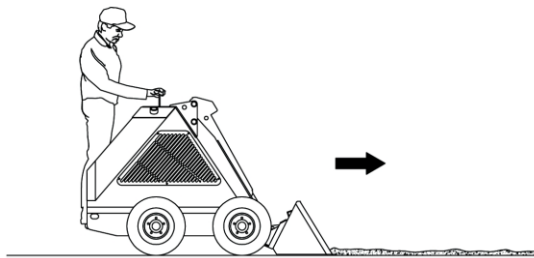

Fig. 17
3. Another method of leveling is to travel forward with bucket down and level, full of material and pushing excess into low areas. Depth is controlled by tilting the bucket slightly up or down, as in Figure 17.